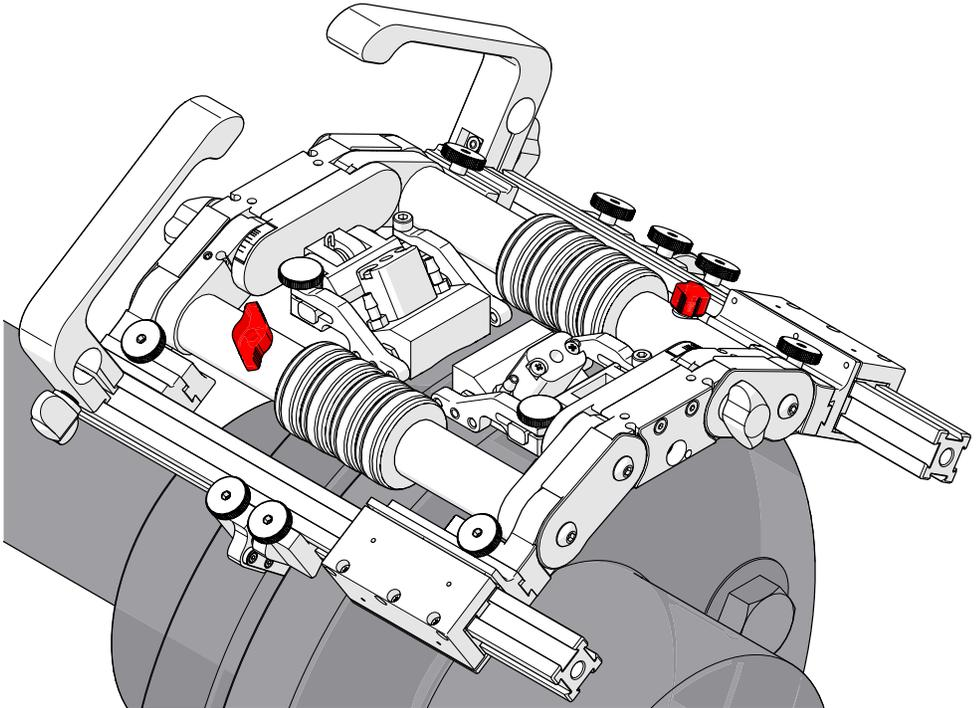

Fig. 53 - Release brakes to begin scanning
12. Release the brakes (*Fig. 53*) and begin the scanning procedure.